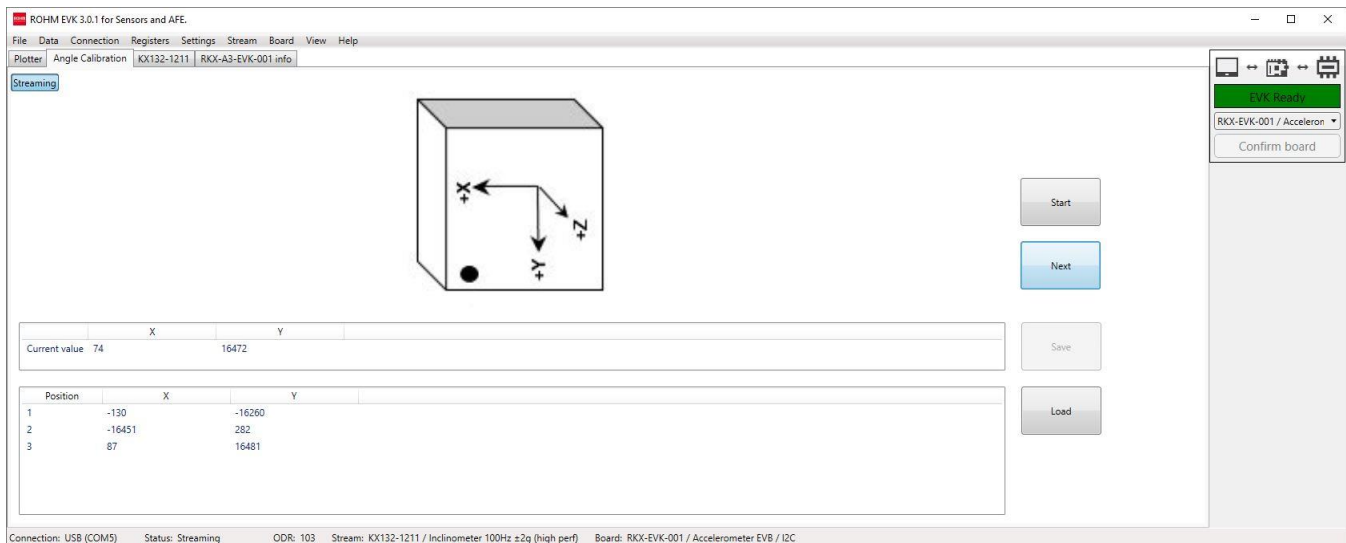

Figure 63. Angle Calibration. Position - 4
- Click Next and hold the device still until the diagram changes to the 4th position (Figure 63)